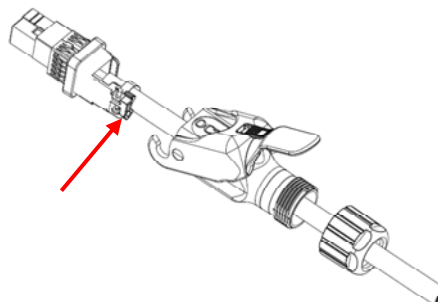

Figure 35
8. Tighten the “holder kit combo power/signal” against the cable using clamp, screw and nut. (Fig 35)